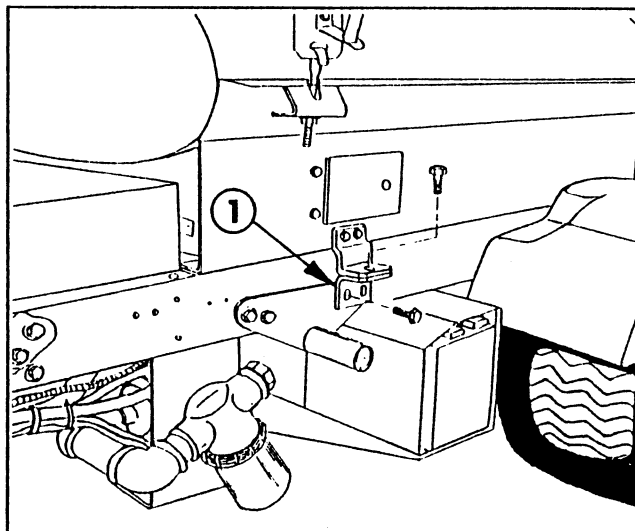
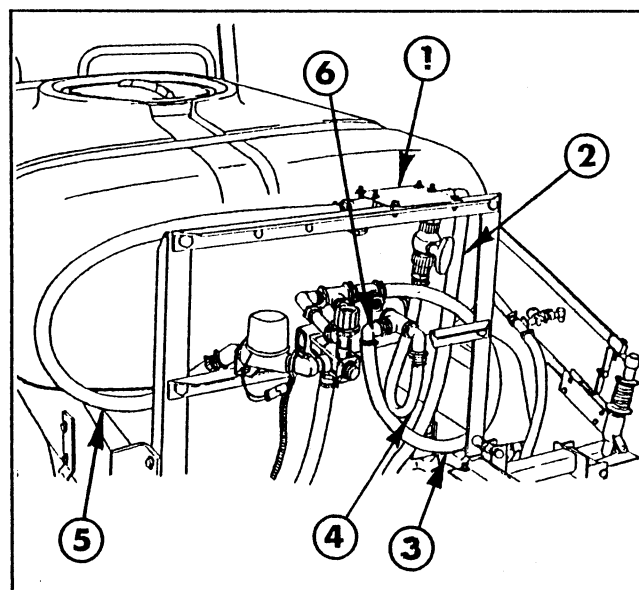

FIG. 10
FIG. 16
earlier removed. Re-tighten the nuts and bolts securely (FIG. 10).
39. Apply sealer and install the 1" 90 degree hose barb in the rear tank tee (FIG. 16).
64. Apply sealer and install the 1" x 1" hose barb into the end of the tee assembly and a 1" x 3/4" hose barb into the existing ball valve of the tee assembly (FIG. 16).
65. Mount the tee assembly and bracket to the upper cross support with (2) 5/16" x 1" hex hd cap screws, flat washers, lockwashers, and nuts (FIG. 16).
66. Install a 1" quick coupler on the end of the 1" x 100" supply hose and secure with a hose clamp. Connect the supply hose to the discharge port on the pump with the quick coupler. Route the hose along the left side of the vehicle under the tank, and connect to the hose barb on the right side of the tee assembly and secure with a hose clamp (FIG. 16). Secure hose at cable mounting bracket and rear cross member with tie straps.
68. Connect the 1" x 42" supply hose to the 1" hose barb on the tee assembly and the 1" hose barb in the control valve. Secure with hose clamps (FIG. 16).
69. Connect the 3/4" x 28" agitator hose to the 3/4" hose barb in the first ball valve and connect to the hose barb on the rear of the tank. Secure the hose with hose clamps (FIG. 16).
70. Connect the 1" x 42" overflow hose to the 1" hose barb in the end of the electric solenoid assembly and connect to the 90 degree hose barb on the left side of the rear tank tee. Secure with hose clamps (FIG. 16).
73. Mount the radiator cover to the vehicle frame using the (4) 3/8" x 1" hex head cap screws and (4) flat washers. On some models, it may be necessary to use the (2) nuts provided to mount the cover at the rear mounting holes.
74. Secure the tank skid to the vehicle frame by installing the (2) 1/2" bolts, (4) washers, and (2) lock nuts through the attachment mounting brackets (FIG. 10). Tighten fasteners securely.